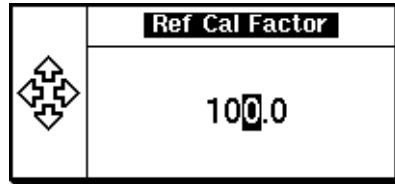

Figure 89 Reference Calibration Factor Pop Up Window
- 4 If required, change this setting by pressing the channel **Ref CF**. The reference calibration factor pop up window is displayed as shown in Figure 89.